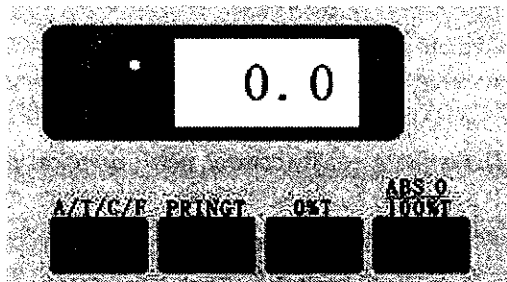

Fig.1-7
- a. To set zero. It is effective only in **T** mode. Insert black block into the second slot of the cuvette, then close the sample compartment cover. Pull the cuvette holder to the position of the second slot. Press the key, and it will show 000.0. (Fig.1-7)